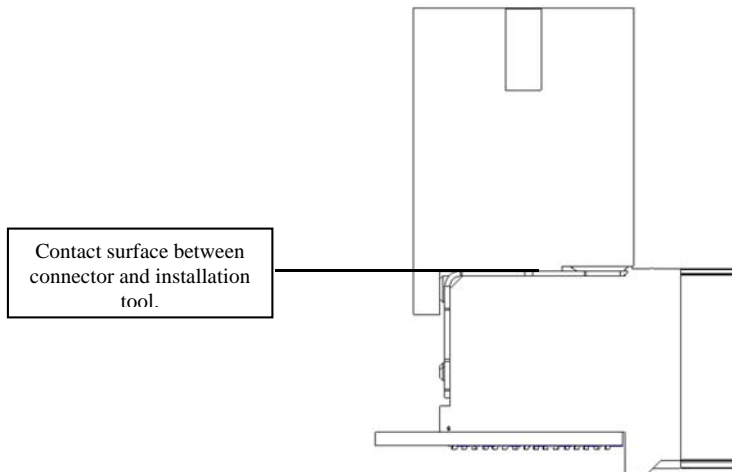

Figure A-5. Connector Setup dimensions for XCede connectors for MEP-12T press.
- Dimension – Unique to connector being installed. See Figure A-5.
Figure A-5 below describes the dimension values for the Connector Setup screen of the MEP-12T press for the various XCede Daughter Card connector sizes. If a particular XCede connector is not listed, please consult your Amphenol-TCS representative for assistance.